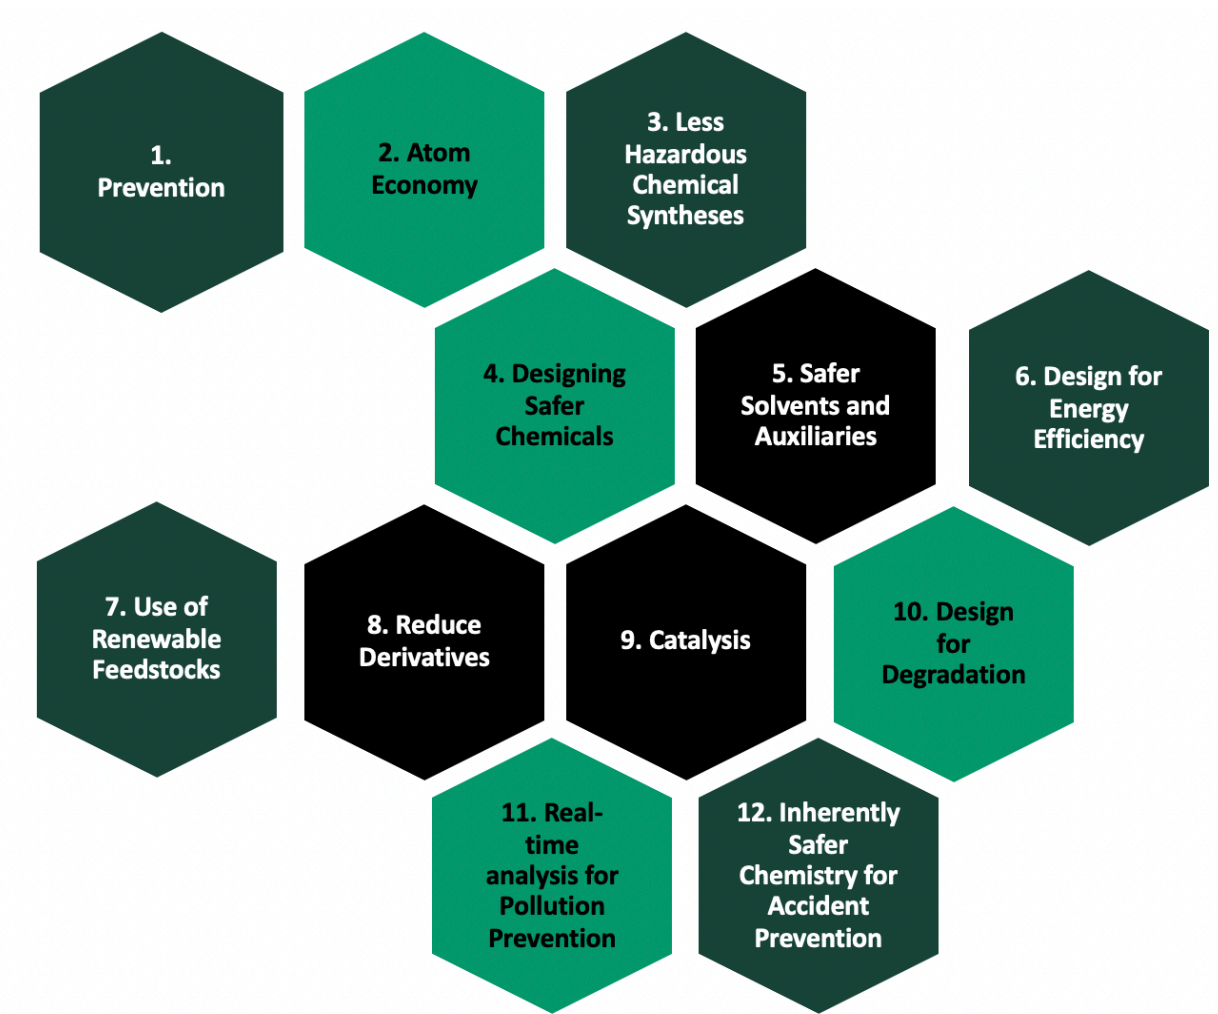

Figure 1. The 12 Principles of Green Chemistry were developed by Paul Anastas and John Warner in 1998. The figure was created by Mengqi Zhang, CC BY-NC.
Pictured in **Figure 1**, the culmination of innovation in the 1990s was the **12 Principles of Green Chemistry**. The twelve principles are explained in greater detail below, and the list includes: (1) prevention, (2) atom economy, (3) less hazardous chemical synthesis, (4) designing safer chemicals, (5) using safer solvents and auxiliaries, (6) designing for energy efficiency, (7) using renewable feedstocks, (8) reducing derivatives, (9) catalysis, (10) designing for degradation, (11) real-time analysis of pollution prevention, and (12) inherently safer chemistry for accident prevention.